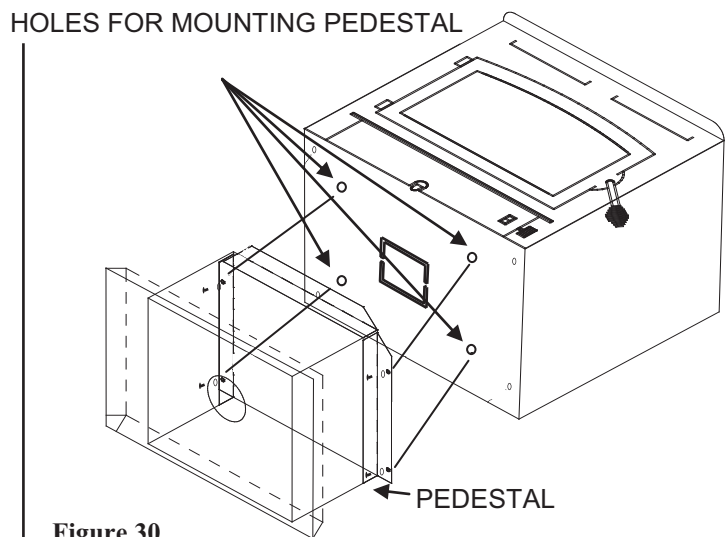

Figure 30
7. Open freestanding kit and obtain stand. Place stand against bottom of heater (angle side to heater).Center stand front to rear and also center stand left and right. Mark screw locations on bottom of the stove through outer holes of stand mounting angles. Set stand aside and drill four 7/32" holes in heater bottom.Then mount stand to bottom of heater with screws provided. (See Figure 30).
8. Obtain four (4) 3/16" self-tapping screws and secure the stand to the heater.